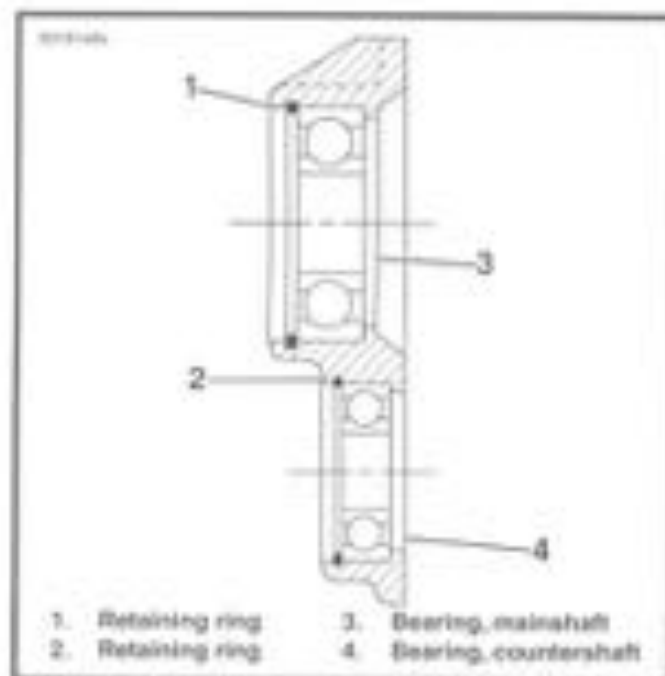

Figure 6-48. Ball Bearing Assembly
3. See Figure 6-48. If bearing replacement is required, remove retaining rings (1) and (2). Press out bearings (3) and (4) from the inside of the door.